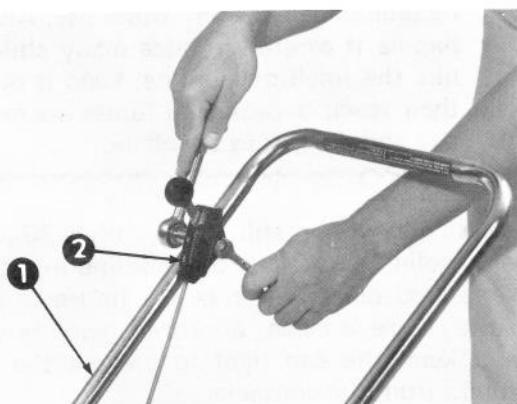

Figure 3
3. Bolt the throttle control to the upper handle, inner right hand side (Fig. 3).